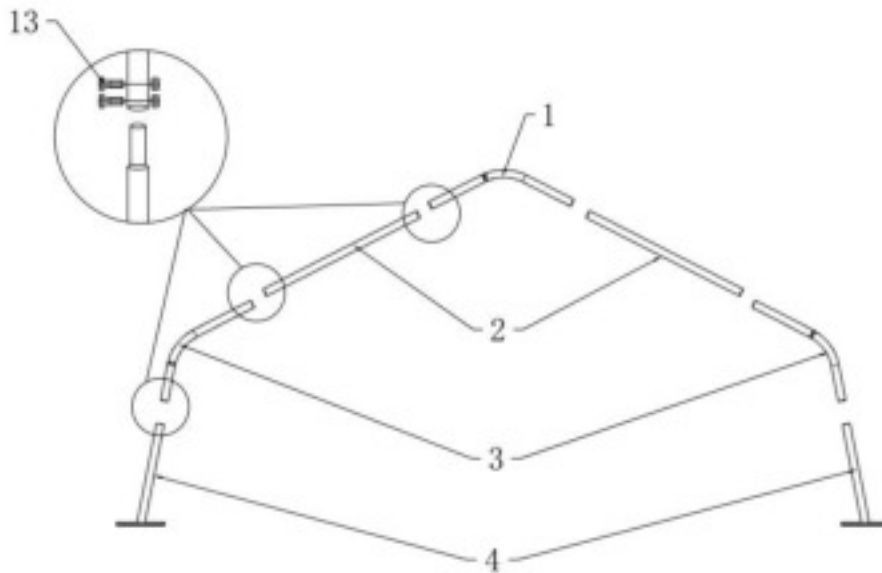

Figure 3
1. As **Figure 3** shown find 1 piece of Roof Bent Tube (part code 1), 2 pieces of Incline Tube (part code 2) 2 pieces of Shoulder Bent Tube (part code 3) and 2 pieces of Standing Leg Tube (Part No. 4). To connect them by using Bolt M8x70 (part code 13) , which makes one group of peak arch. Please NOTE the direction of the screw. DO NOT install the bolts on the top of the truss where the fabric will rest.